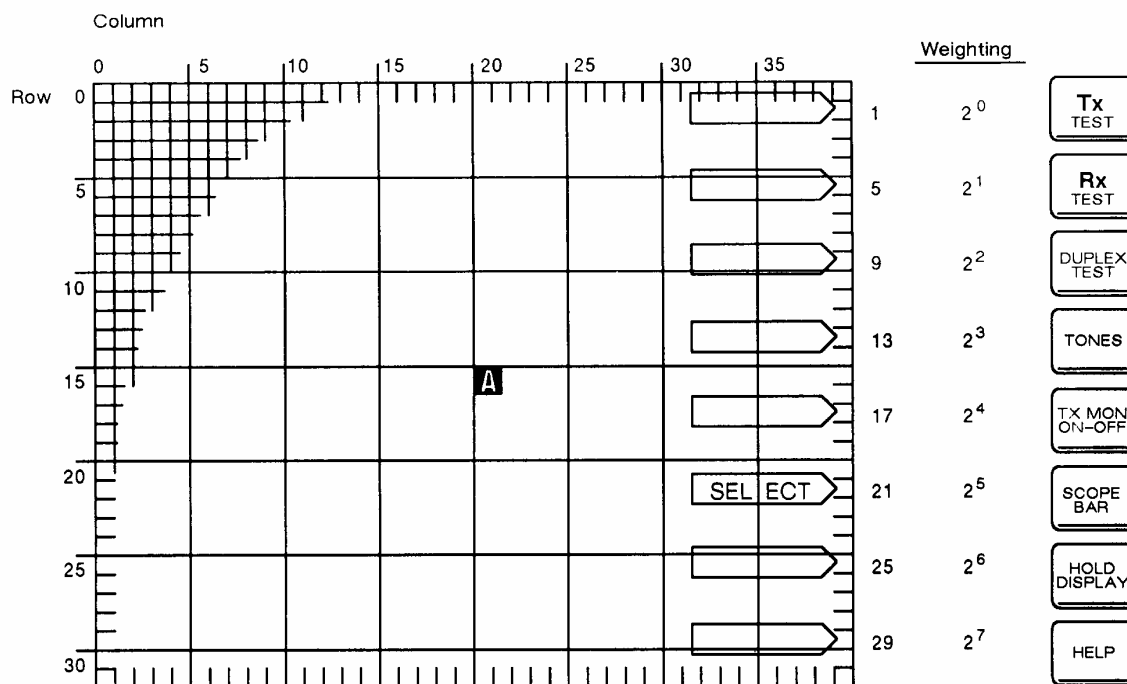

Fig. 3-3 Screen addressing example
To write a reverse video A at the centre of the screen at column 20, row 15, use "WR20,15,";CHRS(97) or "WR20,15,a". To write SELECT in the box alongside the SCOPE/BAR key, use BX32,6;WR32,21,SELECT<LF>. See Fig. 3-3.